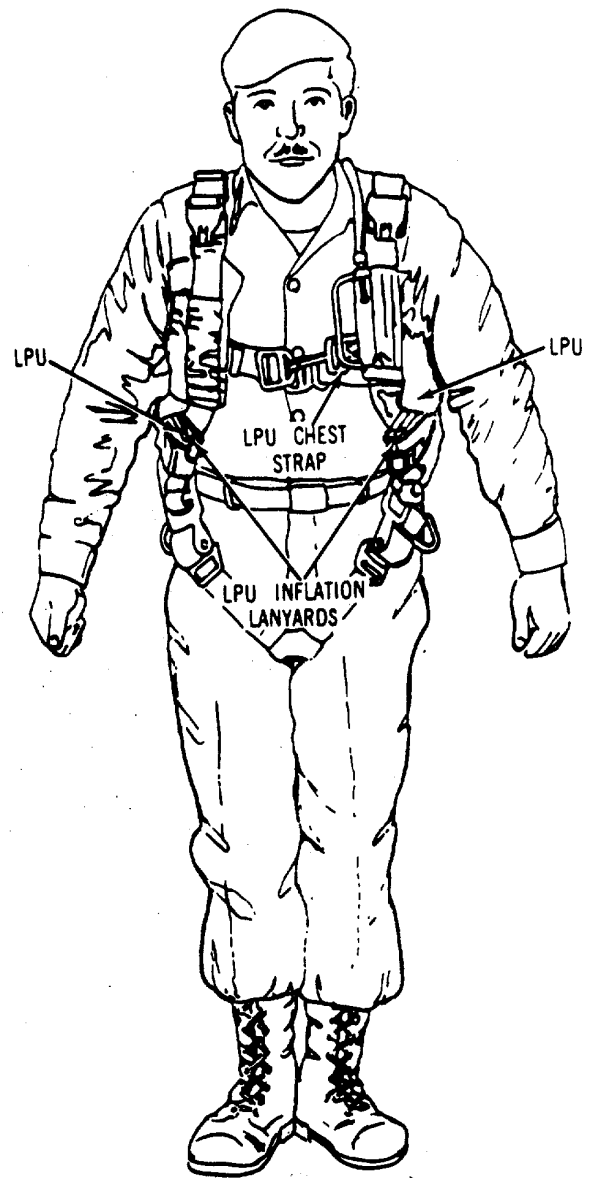

Figure 2-21. Life Preserver Unit Worn With Parachute, Typical.
e. Landing in Water. Water landings require the use of different procedures than those used on land. As indicated in paragraph 2-1, an underarm life preserver unit (LPU) shall be worn under the parachute harness (fig. 2-21). The procedures used for water landings are as follows: NOTE Only LPU-2/P or LPU-10/P should be used with emergency type parachutes.